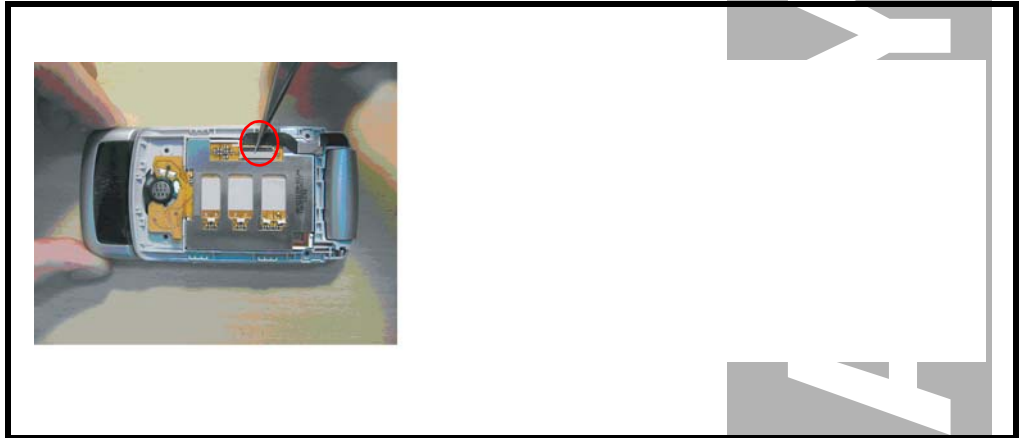

Figure 38. Replacing FPC
7. Lock the connectro cap as shown in Figure 38.